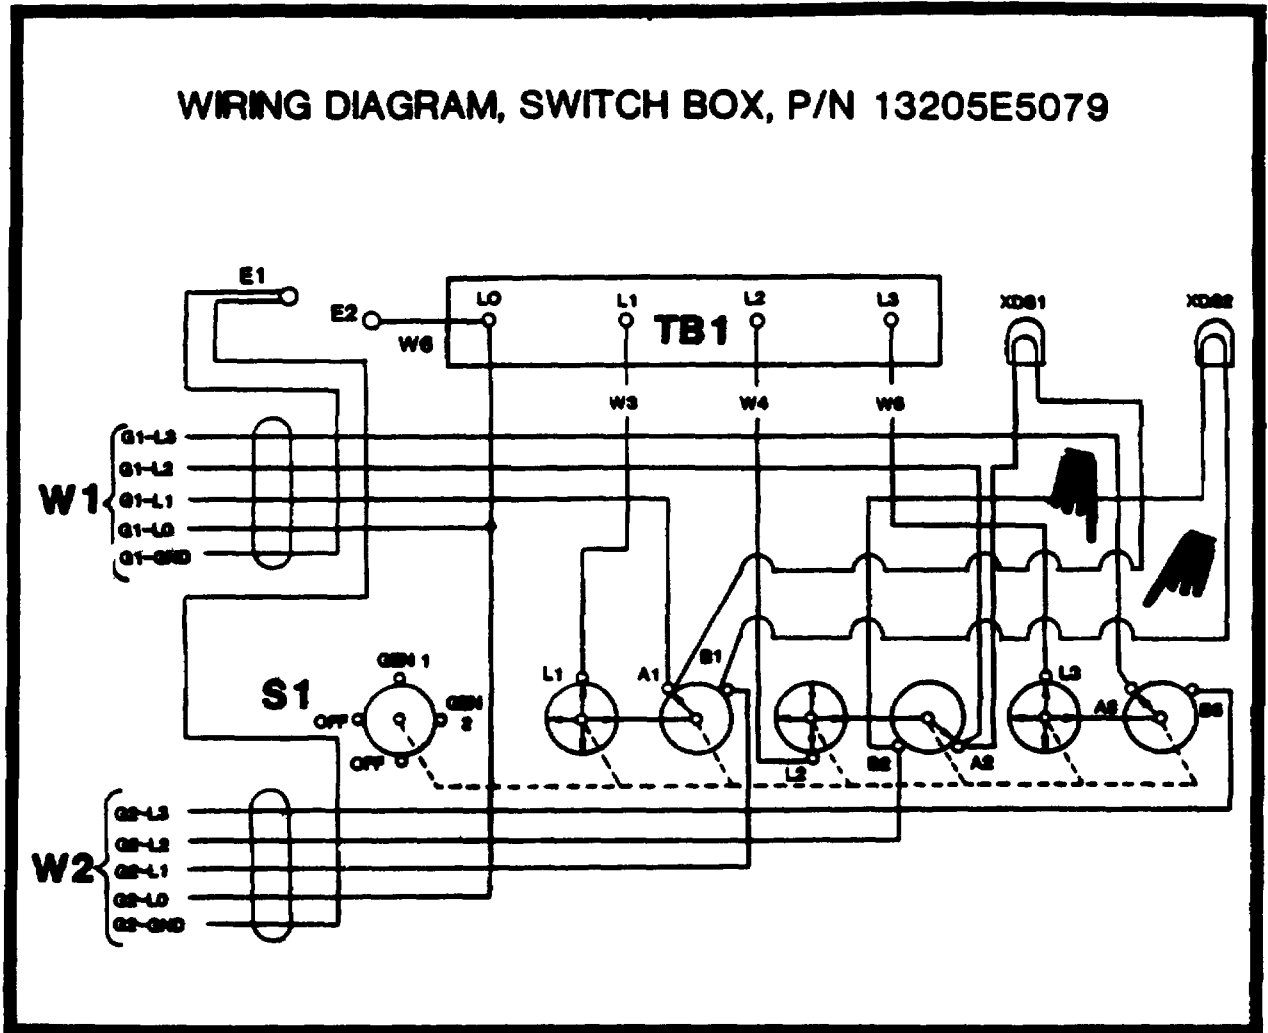
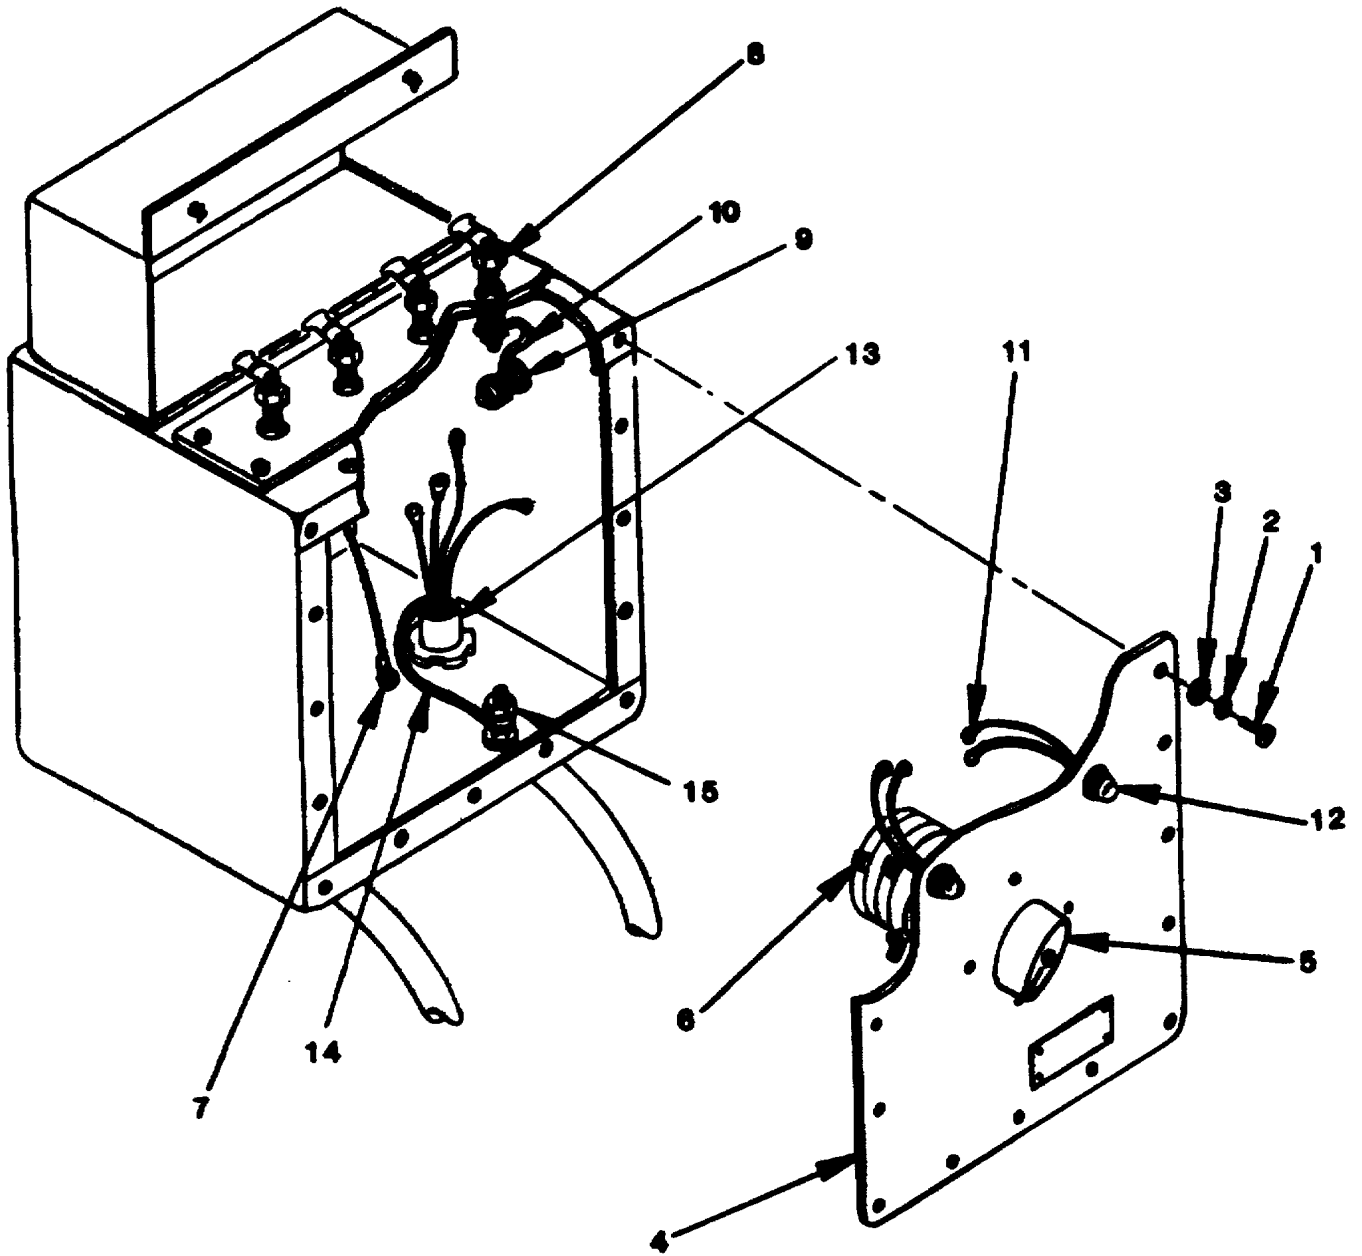
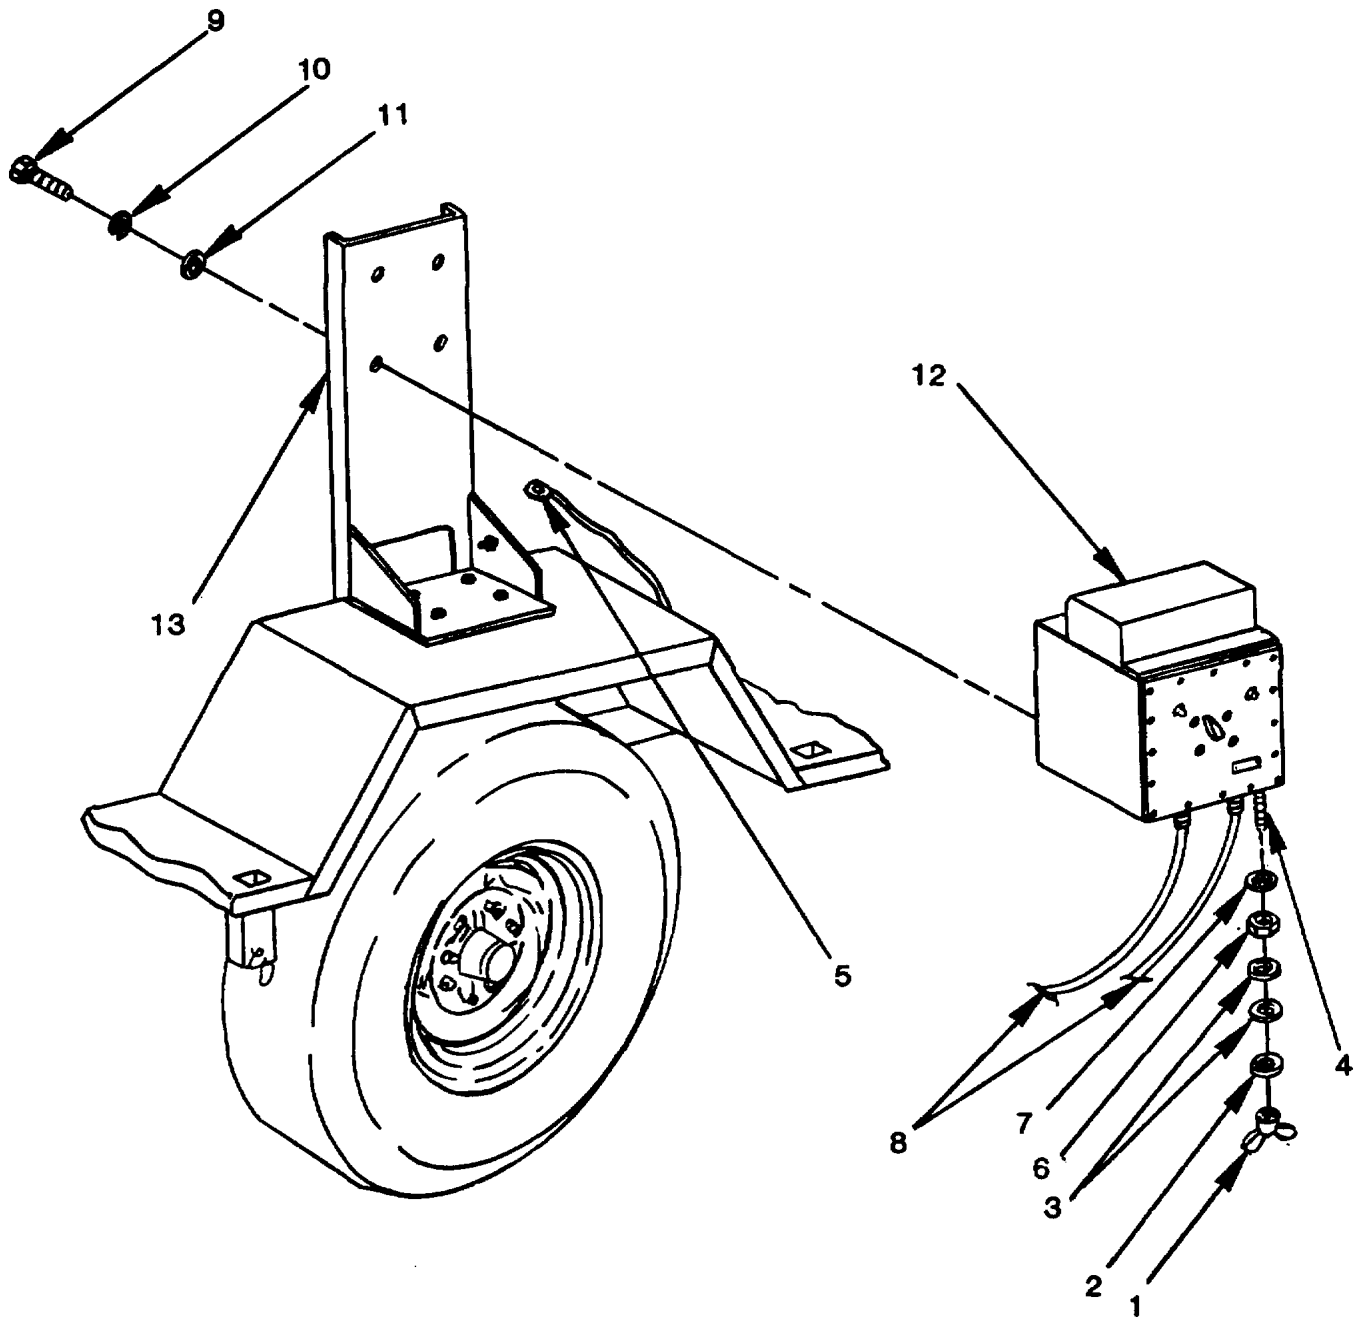
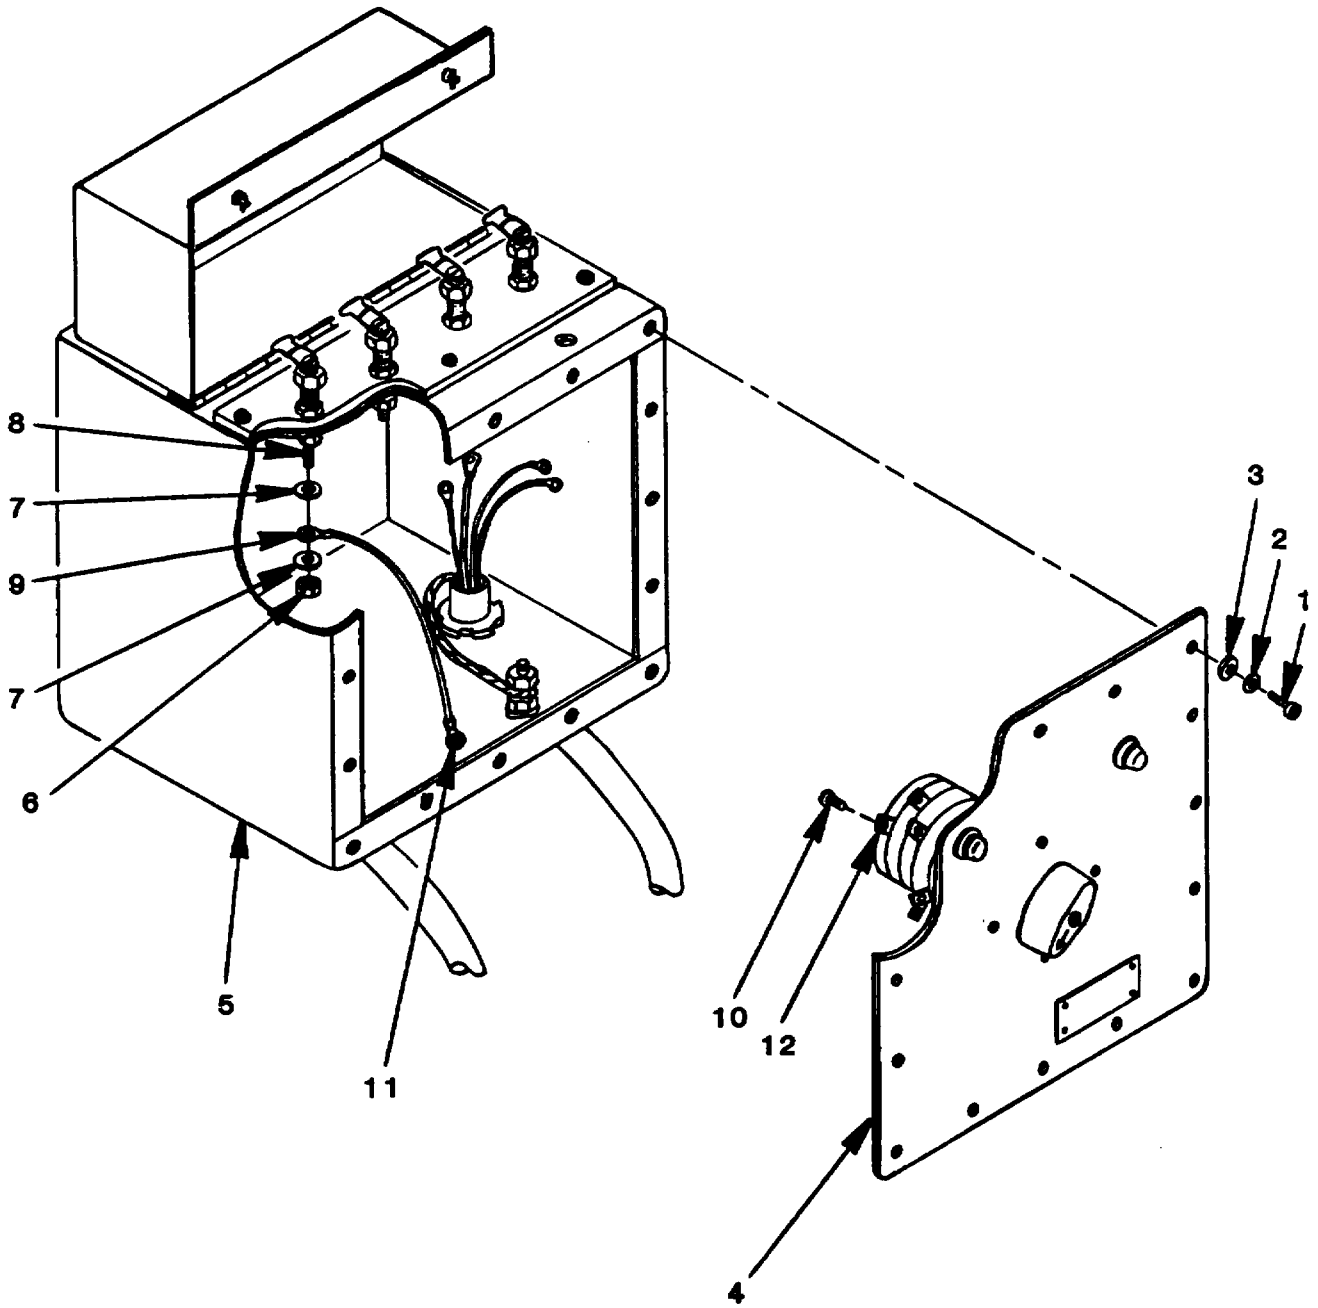

Figure 4-4. Five-Wire Switch Box Schematic Diagram. Diagram.
Figure 4-5. Switch Box Testing.
Figure 4-6. Switch Box Replacement.
Figure 4-8. Switch-to-Load Terminal Wire Replacement.
a. Test. To isolate the source of an electrical system problem, perform continuity tests on the components of the switch box as described below. Refer to the schematic diagram inside the switch box (shown in figure 4-4) to locate and identify the test points indicated in these procedures. The switch boxes, except for power cable lengths, are identical for both the AN/MJQ-32 and the AN/MJQ-33 power plants.
(1) Switch Test.
- (a) Remove 16 screws (1, figure 4-5), lockwashers (2), and flat washers (3) from switch box front panel (4) and pull panel forward.
- (c) Set rotary switch (5) to GEN 1 position.
- (d) Touch one probe to switch terminal (6) A1 and remaining probe to switch terminal L1. Repeat test between terminals A2 and L2 and terminals A3 and L3. If multimeter does not indicate continuity exists between each pair of terminals, switch is defective. Notify higher level of maintenance.
- (e) Set rotary switch (5) to GEN 2 position and repeat step (d) above, substituting terminals B1, B2, and B3 for A1, A2, and A3.
(2) Electrical Leads (Wiring Test).
- (c) Test each wire (7) between its switch terminal (6) and load (post) terminal (8) by touching probes to each of following pair of test points: L1 on switch to load (post) terminal L1, L2 on switch to load (post) terminal L2, and L3 on switch to load (post) terminal L3. If multimeter does not indicate continuity between each pair of test points replace associated wiring.
- (d) Test ground wire (10) by touching one probe to load terminal (8) LO on switch box terminal board and touch remaining probe to E2 (AC GROUND) (9) on switch box. If multimeter does not indicate continuity, replace associated wire.
- (a) Remove 16 screws (1, figure 4-5), lockwashers (2), and flat washers (3) from switch box panel (4) and pull panel forward.
- (c) Test wires (11) and socket (12) associated with GEN 1 indicator light by testing for continuity between switch terminal (6) A2 and socket XDS1 and switch terminal A1 and socket XDS1. If multimeter does not indicate continuity exists on both of these wires, replace light and wire assembly (paragraph 4-23b).
- (c) Set switch box rotary switch (5) to GEN 1 position and locate power cable assembly (13) associated with switch position.
- (d) Test white wire by touching one probe of multimeter to load terminal LO on generator set and touching other probe to load terminal (8), associated with white wire, on switch box. Multimeter must indicate continuity between these points.
- (e) Repeat step (3) for black wire (between L1 on generator set and A1 on switch), red wire (between L2 on generator set and A2 on switch), and blue wire (between L3 on generator set and A3 on switch).
- (f) Test the ground wire (14) by disconnecting the ground wire that runs from generator to skid mount ground stud; disconnect wire at skid mount. Test for continuity between free end of wire and ground stud EI, EQUIPMENT (FRAME) GROUND (15), on switch box.
- (h) To test power cable assembly associated with GEN 2 switch position, perform steps (2) thru (6) substituting switch terminals B1, B2, and B3 for terminals A1, A2, and A3, at test points. Generator set load terminal designations and wire color-coding are identical for both power cables.
c. Removal. (See figure 4-6). The switch boxes, one on each power plant, are located on the roadside rear fender extension for AN/MJQ-32 and on the roadside fender for AN/MJQ-33. Switch boxes, except for power cable lengths, are identical for both power plants.
(1) Removal.
- (a) Remove wingnut (1, figure 4-6), lockwasher (2), and flatwasher (3) from EQUIPMENT (Frame) GROUND stud (4). Slide ground wire (5) off stud and remove remaining flat washer (3), nut (6), and star washer (7).
- (b) Detach load cables (8) from load terminals on generator sets. (Refer to TM 5-6115-615-12.) (c) Remove four screws (9), lockwashers (10), and flat washers (11) securing switch box (12) to bracket (13).
- (1) Position switch box (12) on bracket (13).
- (2) Insert four flat washers (11), lockwashers (10), and screws (9) through bracket and into switch box. Tighten hardware to secure switch box.
There are four load terminals on the switch box terminal board. This procedure is typical for all four. When reconnecting wires, refer to the schematic inside the switch box (figure 4-4) and to the identification bands on the wires.
b. Removal. (See figure 4-8.) There are three wires connecting the switch to the load terminals; and one ground wire connecting load terminal LO to AC GROUND E2 (located on side of switch box). When attaching wires, refer to the schematic inside the switch box (figure 4-4) and to the identification bands on the wires.
(1) Removal (Switch-to-Load Terminal Wiring).
- (a) Remove 16 screws (1, figure 4-8), lockwashers (2) and flat washers (3) securing cover (4) to switch box (5) and take cover off switch box.
- (b) Remove nut (6) two lockwashers (7) and wire terminal lug (9) from terminal stud (8) inside switch box (5).
- (c) Remove screw (10), securing wire terminal lug (11) to threaded switch terminal (12). Remove wire from switch terminal.
(2) Installation (Switch-to-Load Terminal Wiring).
- (a) Position wire terminal (11) against underside of switch terminal (12). Insert screw (10) into wire terminal and tighten on switch terminal.